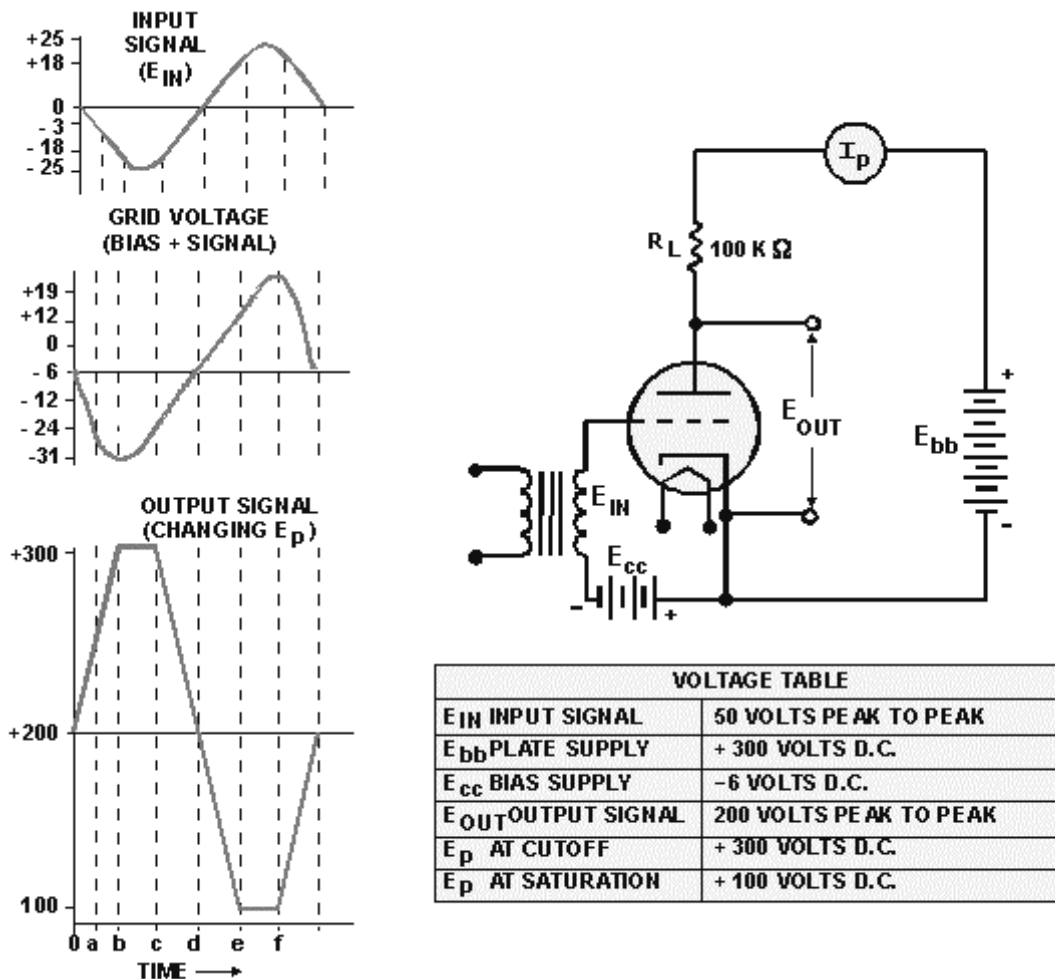

Figure 1-20.—Overdriven triode.
Look at time zero (0) in the waveforms of figure 1-20. The input signal ( $E_{in}$ ) is at zero volts. Grid voltage equals the bias voltage (-6 volts), and one milliampere of current is flowing through the tube (quiescent state). Plate voltage ( $E_p$ ) is 200 volts.
During the next cycle, the same process will be repeated, with  $C_c$  charging on the positive alternation and discharging a lesser amount during the negative alternation. Therefore, at the end of the second cycle,  $C_c$  will have an even larger negative charge than it did after the first cycle. You might think that the charge on  $C_c$  will continue to increase until the tube is forced into cutoff. This is not the case. As the negative charge on the right-hand plate of  $C_c$  forces the grid more negative, electrostatic attraction between the grid and cathode decreases. This, in effect, increases the resistance ( $rgk$ ) between the cathode and the grid, until  $rgk$  becomes, in effect, the same size as  $R_g$ . At this point, charge and discharge of  $C_c$  will equal one another and the grid will remain at some negative, steady voltage. What has happened in this circuit is that  $C_c$  and  $R_g$ , through the use of unequal charge and discharge paths, have acted to change the ac input to a negative dc voltage. The extent of the bias on the grid will depend on three things: the amplitude of the input, the frequency of the input, and the size of  $R_g$  and  $C_c$ . This type of biasing has the advantage of being directly related to the amplitude of the input signal. If the amplitude increases, biasing increases in step with it. The main limiting factor is the amount of distortion that you may be willing to tolerate. Distortion occurs during the positive alternation when the grid draws current. Current drawn from the electron stream by the grid never reaches the plate; therefore the negative-going output is *not* a faithful reproduction of the input, while the positive-going output (during the negative input cycle) *will be* a faithful reproduction of the input. This is similar to the situation shown in the flattened portion of the output signal in figure 1-20.